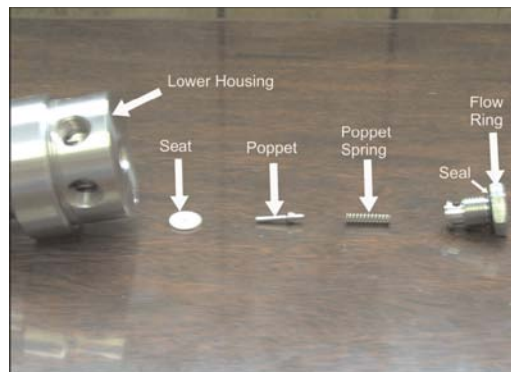

Figure 6
3.3.3 Remove the poppet spring (Part 2) and the poppet (Part 3) (also see Figure 6).